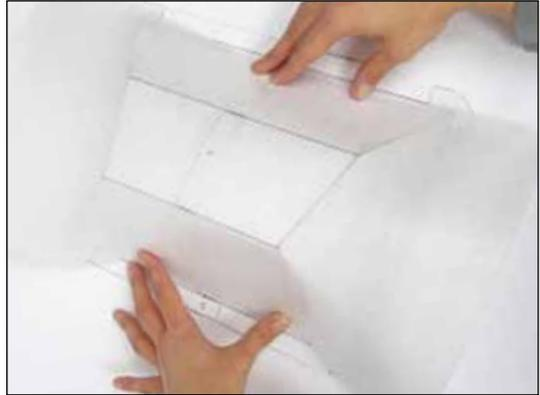

Figure 8
1. Take the thin foam and center it lengthwise over the back of the reflector box. It will be about 1/4" to 1/2" above the flaps of the reflector box on both sides (Figure 8). Mark where the foam ends on each side of the box.